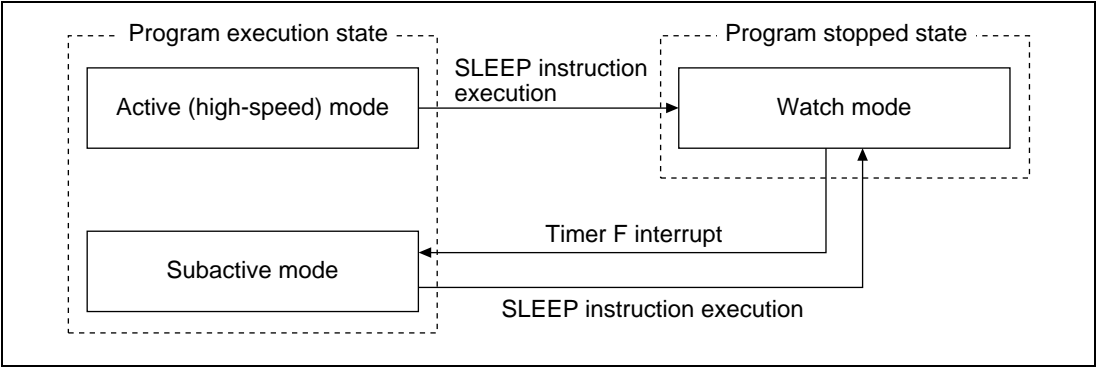

Figure 1 Diagram of Mode Transitions for this Task Example
5. The mode transition diagram for this task example is shown in figure 1.